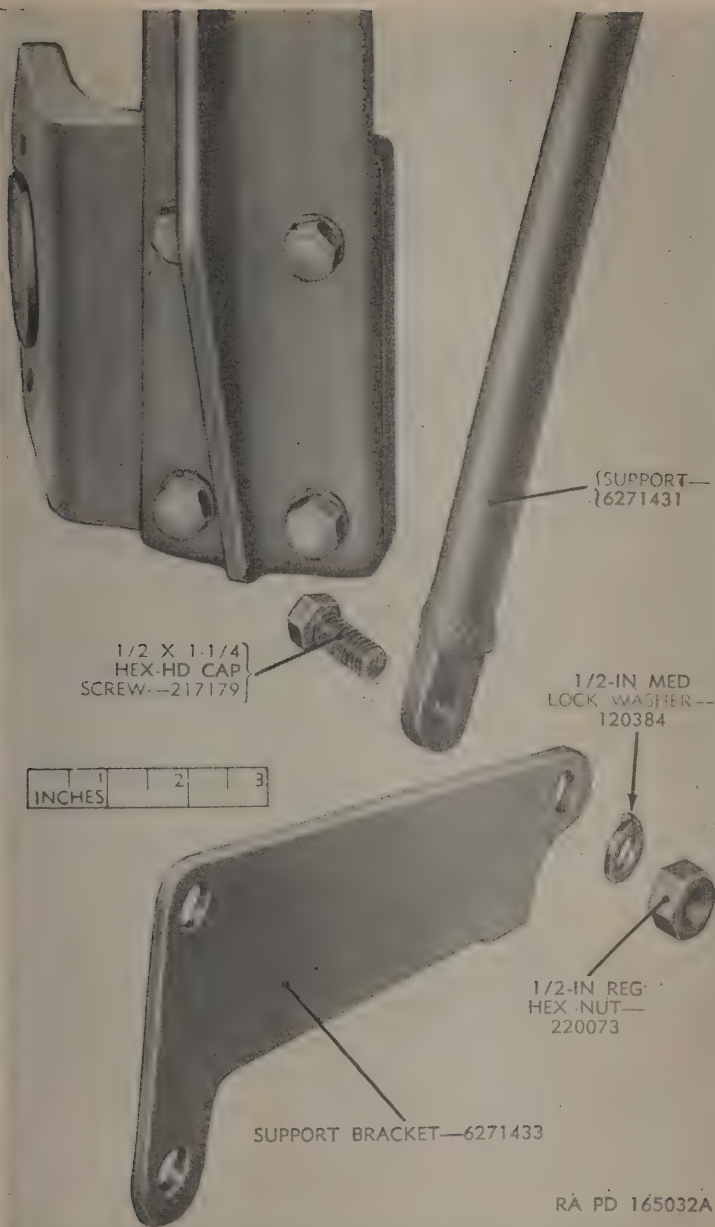

Figure 58. Telescope mount M52D—removal of the support bracket.
*c. Support Bracket (Telescope Mount M52D Only)* (fig. 58). Remove the hex nut and lock washer from the hex-head cap screw that secures the support bracket to the lower end of the support. Remove the hex-head cap screw and separate the bracket from the support.